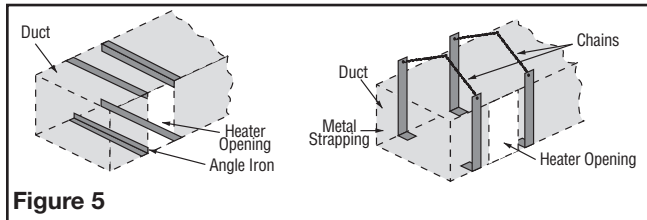

Figure 5
5. For heater weights greater than 35 pounds (see Specifications Table A, page 1) due consideration should be given to; (a) mechanically strengthening duct work with, for example, angle irons or chains (see Figure 5), and (b) heat insulating duct line in immediate area of heater location to prevent excessive heat loss. Consult your local sheet metal contractor.